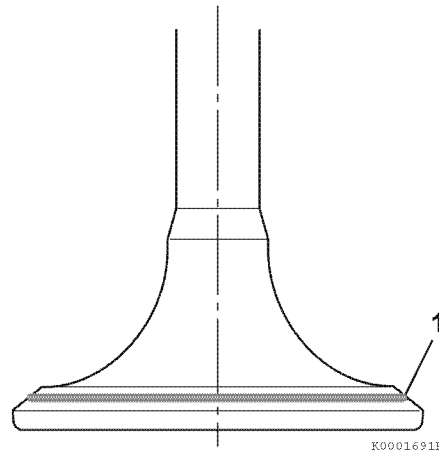

Figure 6-23
Coat the valve seat with a thin coat of bluing compound. Install the valve and rotate it to distribute bluing onto the valve face. The contact pattern should be approximately centered on the valve face (**Figure 6-23, (1)**) and even in width.